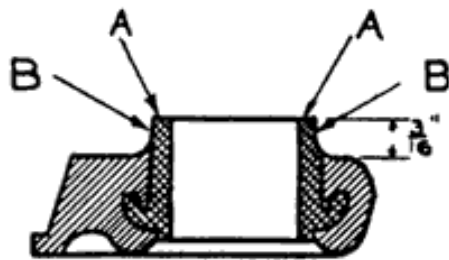

Fig. 282
6. File off tops of cover inserts at "A" (Fig. 282), to a height of  $\frac{3}{16}$  inch above the cover. Also remove any roughness on surface "B" caused by pliers when cover was removed.